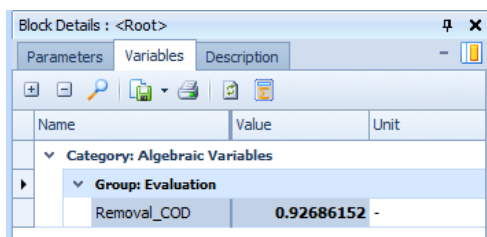

Figure 8.10 New calculator variable, at the Project level
- Upon confirmation, the new variable will be added to the list of top-level variables in the Block Details pane (Figure 8.10).